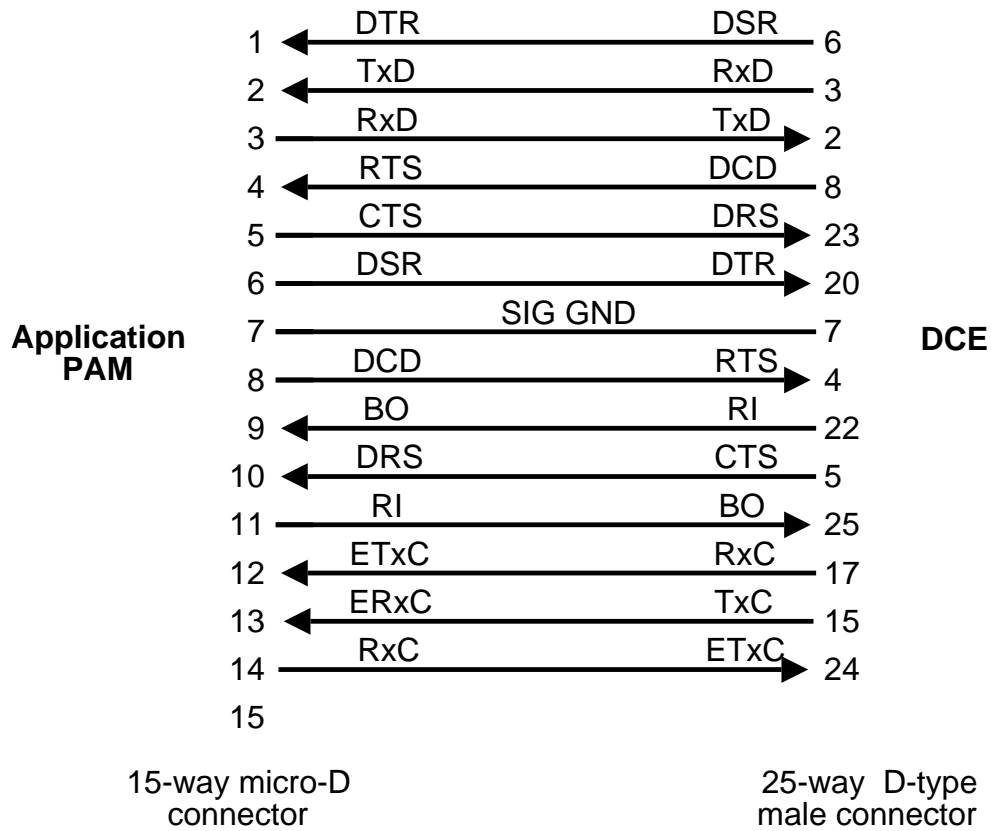

Figure B-3 Micro-D to V.24 DCE Cable
- (2) Application Module to DCE (e.g. modem). Use cable X890-410111, Figure B-3.